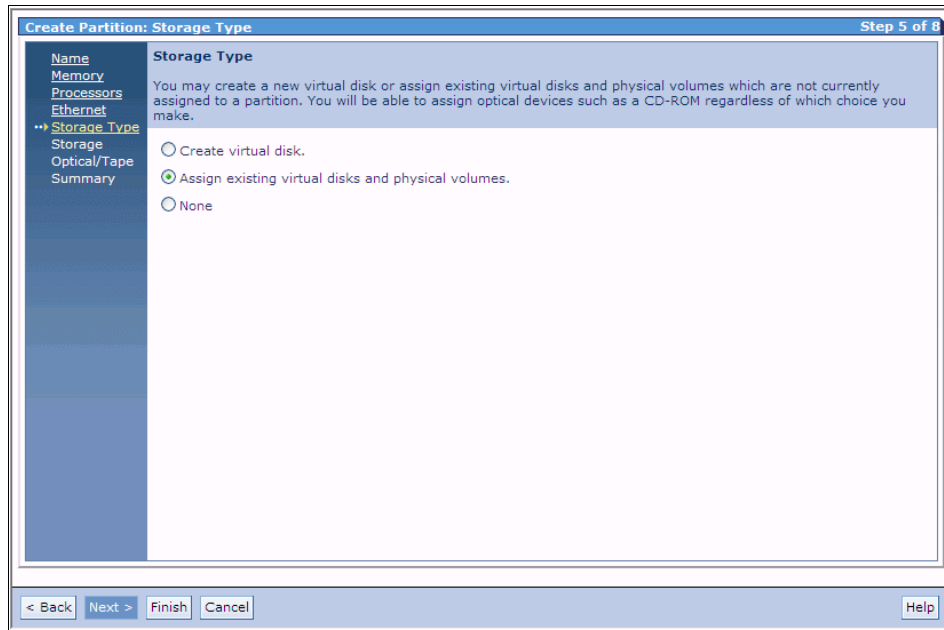

Figure 5-16 Storage selection for a shared memory partition
5. In Figure 5-16 on page 199 we chose the **Assign existing virtual disks and physical volumes** option. Click the **Next** button to continue to the selection window.